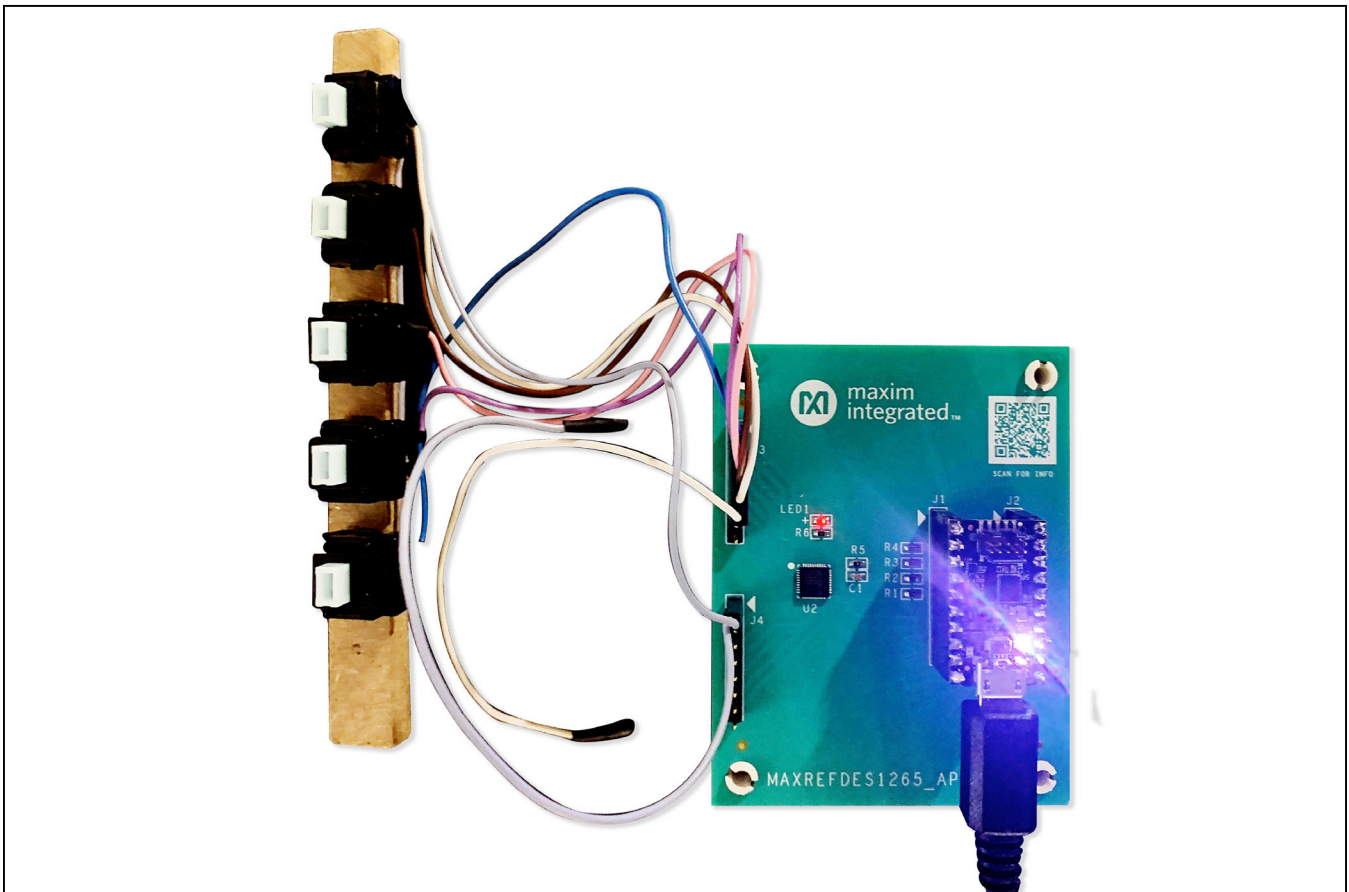

Figure 1. The MAXREFDES1265 connected to the keypad switches.
This document describes the hardware in Figure 1. It provides a detailed, systematic technical guide to use the small-size, low-cost, keypad interface design. The design was built and tested. The details follow in this document.
**Figure 1** shows the hardware connections of the following components:
- Connect the keypad to the row (J3) and column (J4) pinout headers of the MAXREFDES1265 (**Figure 1**).